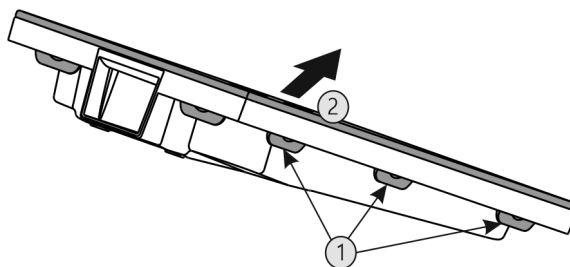

Fig. 42
- Press all lugs Fig. 42 (1) in succession and remove the lid Fig. 42 (2).